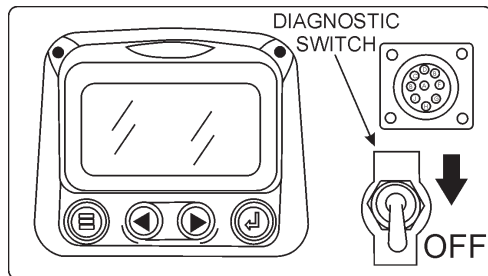

Figure 38. Diagnostic Switch (OFF position)
1. Before starting the engine, make sure the diagnostic switch (Figure 38) on the Diagnostic Display Panel Assembly is in the "OFF" position.